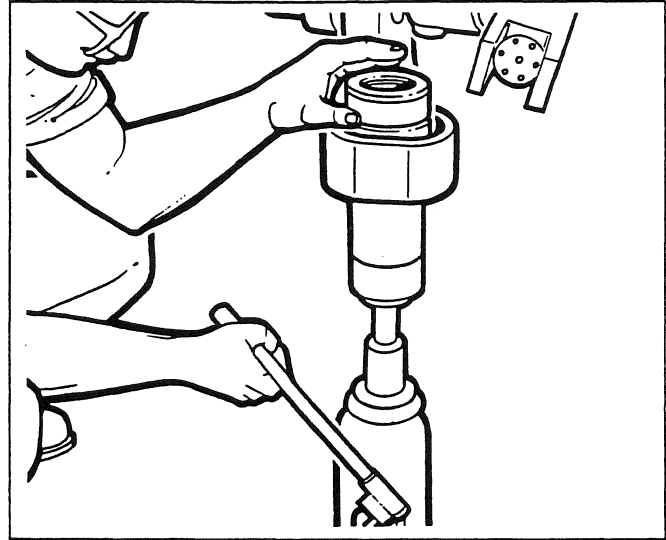

Fig. 10
9. Use a jack and appropriate tubular drift to remove the two needle roller bearings (46) and seal (47) from the bottom bore of the knuckle (see Fig. 10). Discard the seal.